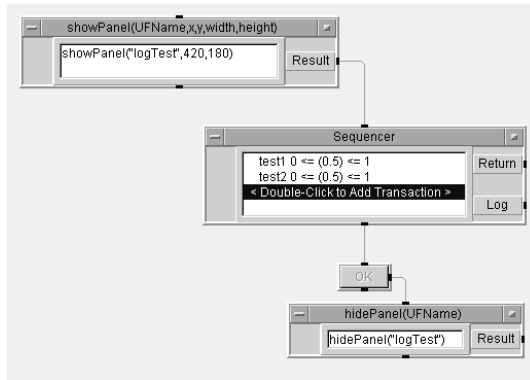

Figure 17.4. Main program before running
24. Connect the objects as shown in Figure 17.4.